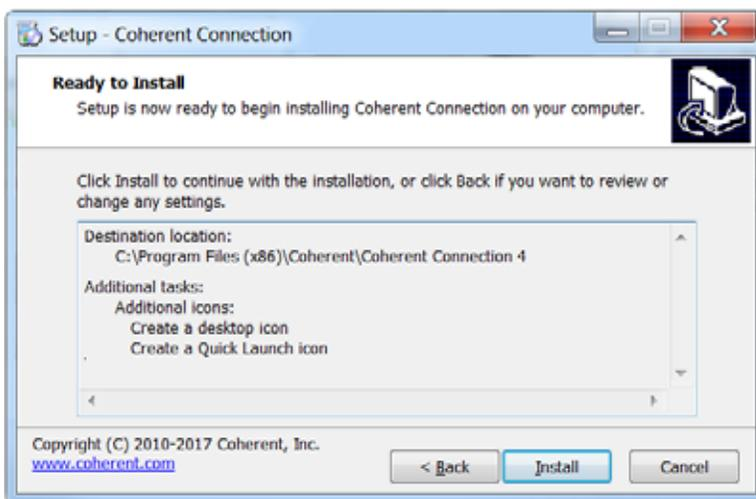

Figure 4-22. Review Set-Up before Installation Begins
11. The set-up utility is now ready to begin installing Coherent Connection 4 software on your workstation. Review the location and icons, as shown in the example in Figure 4-22, and then click Next.